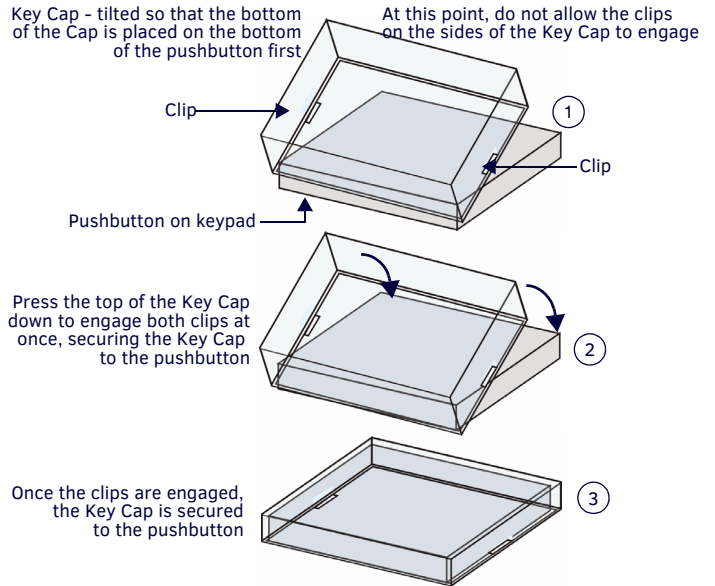

FIG. 8 PLACING A BUTTON LABEL INSIDE A KEY CAP
- Install the Key Cap on the pushbutton (FIG. 8):